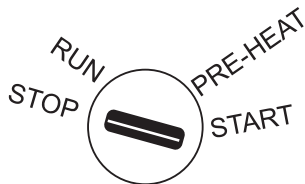

Figure 36. Ignition/Starter Switch (Stop)
4. Turn the ignition key counterclockwise to the **STOP** position (Figure 36). When the engine has stopped, remove the ignition key. Place the key in a safe place where it will not be lost.
2. Turn the ignition key counterclockwise to the **STOP** position (Figure 36).
3. Turn the ignition key counterclockwise to the **STOP** position (Figure 36).